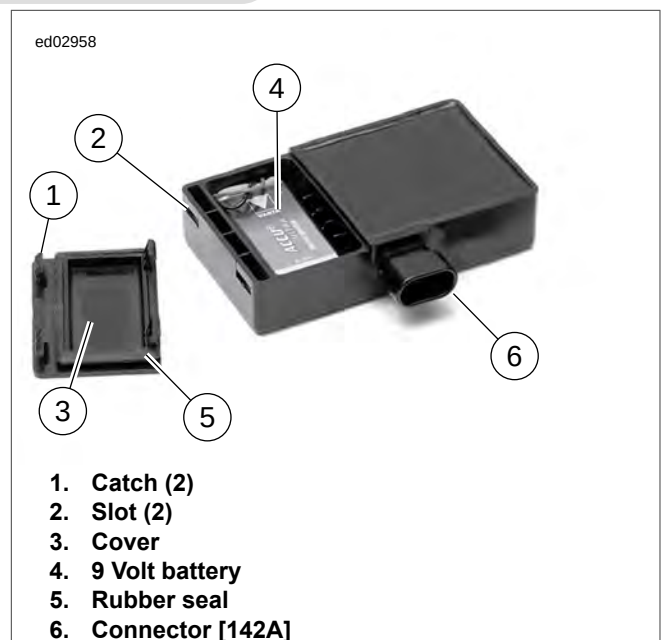

Figure 7-69. Battery Compartment
2. See Figure 7-69. With a small screwdriver or pick, push the catches (1) in through the two slots (2) in the end of the siren to release the battery cover (3).